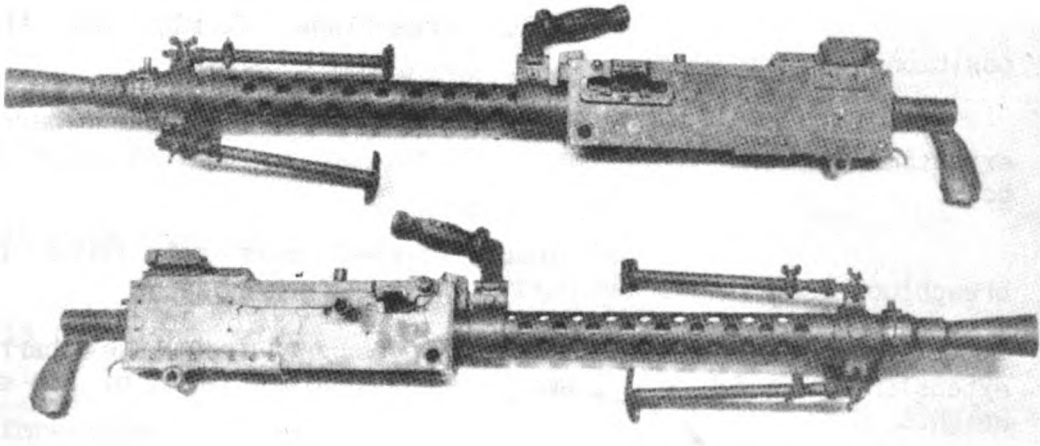

Figure 3
3. Screw the barrel into the barrel extension by placing the combination wrench into the barrel notches or around the muzzle. (See fig 3.) (Turn until the recoiling parts are unable to go forward under the pressure of driving spring when the bolt is released from three-fourths of an inch distance.)